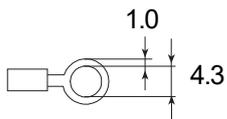

Fig. 3 Connecting power lines
1. Connect the load cell cable to the "LOAD CELL" terminal (Fig. 2), the indicator's power cable to the "AC IN" terminal (Fig. 3), both located on the rear panel of the indicator. (Refer to "3.4. Connecting Load Cell Cables" and "3.5. Connecting Power Lines" in the instruction manual.)